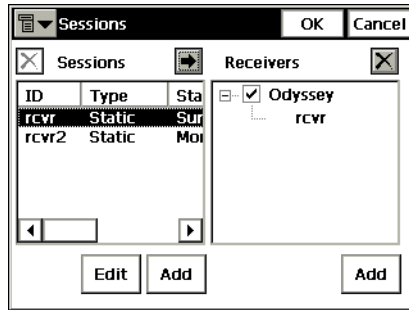

Figure 4-51. Session Edit
To create or edit sessions (only in GPS+ mode) of automatic survey for post-processing, select **Edit ▶ Sessions** (Figure 4-51).
4. To hide/display the session plans of the receiver, tap on the “-/ +” sign located near the receiver name (Figure 4-51 on page 4-38).
5. To put a session to the session plan of the receiver, highlight the desired session in the left panel and check the necessary receiver on the right and tap the  button (Figure 4-51 on page 4-38).
6. To edit the session, select it in the left panel and tap the **Edit** button (Figure 4-51 on page 4-38).
7. To delete the session from the sessions list or the receiver, use the  button (Figure 4-51 on page 4-38).